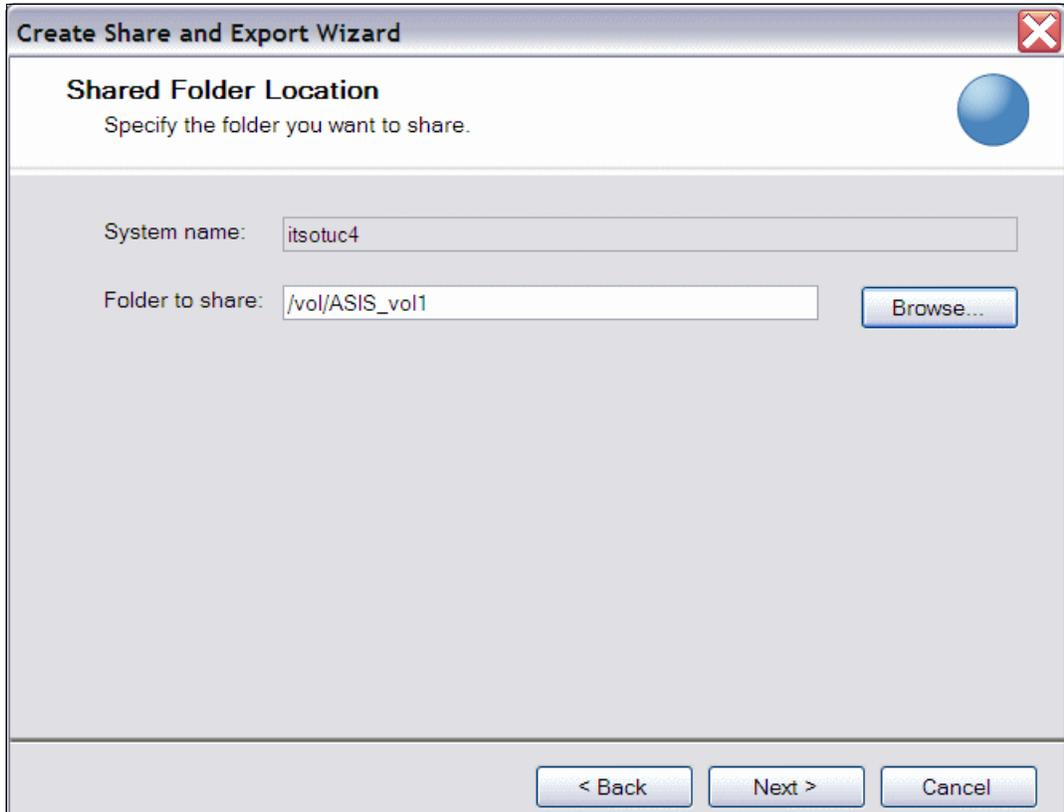

Figure 7-12 Creating shared folders
3. Select the folder to share and click **Next**, as shown in Figure 7-12 on page 211.